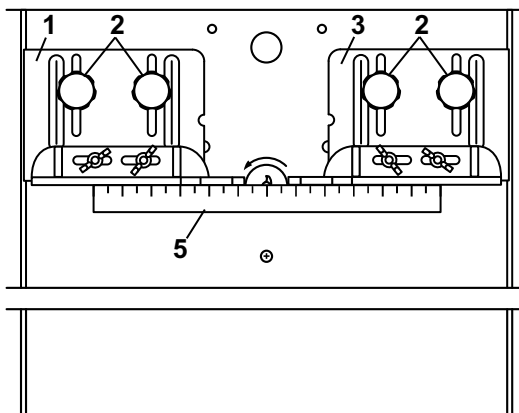

Figure 19
1. Loosen the knobs that hold the fences in place. See Figure 19, below.